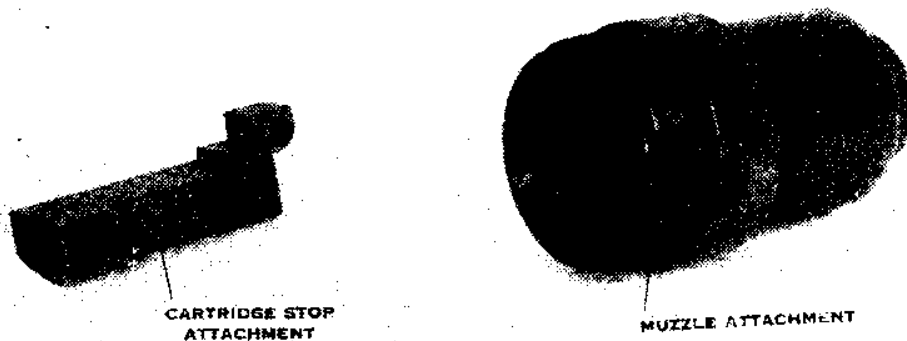

FIGURE 18.—Blank firing attachments.
c. Precautions for using the belt filling machine for web belts.—(1) Before using the machine, see that it is well oiled, that all screws are tight, and that the needles are properly set. See that the points of the upper needles are about 0.01 inch vertically above the points of the lower needles.
(2) In case of a miss in loading the belt, stop and open up machine and remove belt. Turn crank to the right until straight down, as in starting, and replace belt in machine with the *next to the last* cartridge in top groove of lower feed wheel. Close machine and proceed as before.
(3) After use, the machine should be cleaned, oiled, adjusted, and replaced in its wooden box.
■ 56. BLANK AMMUNITION ATTACHMENTS (fig. 18).—*a. General.*—The blank ammunition attachments for use with the machine gun have been developed in order to simulate fire. The attachments are designed to fire blank ammunition M1909.